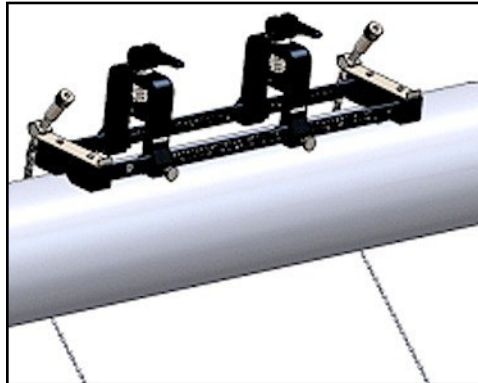

Figure 11: Fixture Placed on Top of Pipe
- Place the clamp-on fixture on top of the pipe so that minimal effort is required to maintain its position during installation (see Figure 11 below).